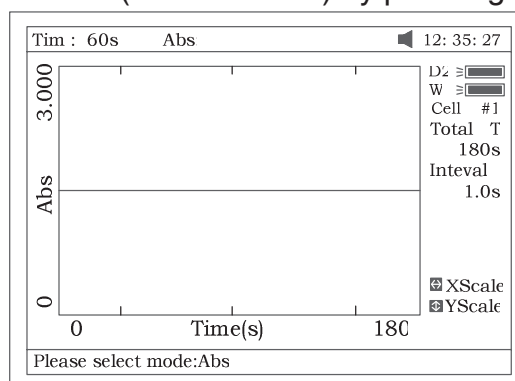

Fig 54
2. Select the test mode (“Abs” or “%T”) by pressing **【F2】** (Fig 54).